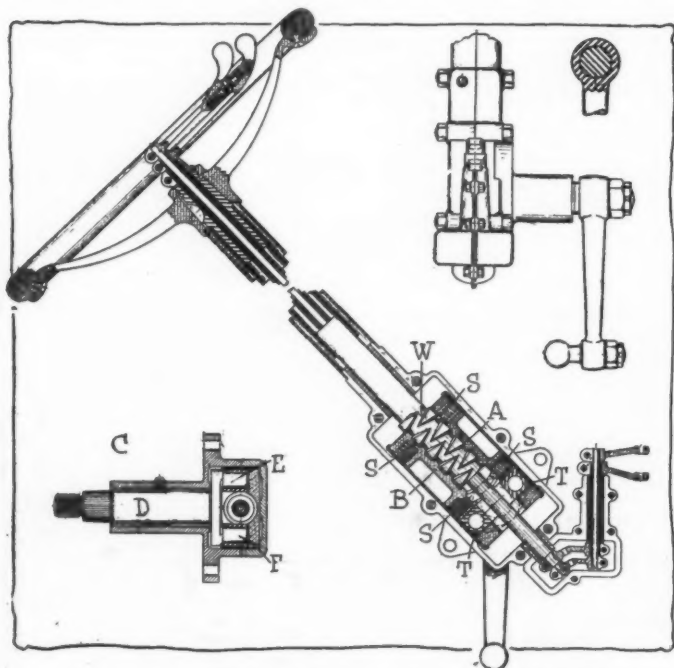

Fig. 5—Lavigne steering gear, showing double worm
**Lavigne Steering Gear**—This gear acts on the principle of the double-threaded screw and two sliding half-nuts. Fig. 5 is a vertical section in which the worm with its right and left hand thread is shown at W. The pitch is .875 inch and the angle 29 degrees. Engaging with the worm are the two sliding heads or half-nuts A and B. Each of these is provided with two radially drilled holes containing coil springs S which maintain a constant pressure on the half-nuts and take up what little wear occurs. Chrome vanadium steel shoes are placed between the half-nuts and the outer casing to keep these springs in place, and form a guiding surface.